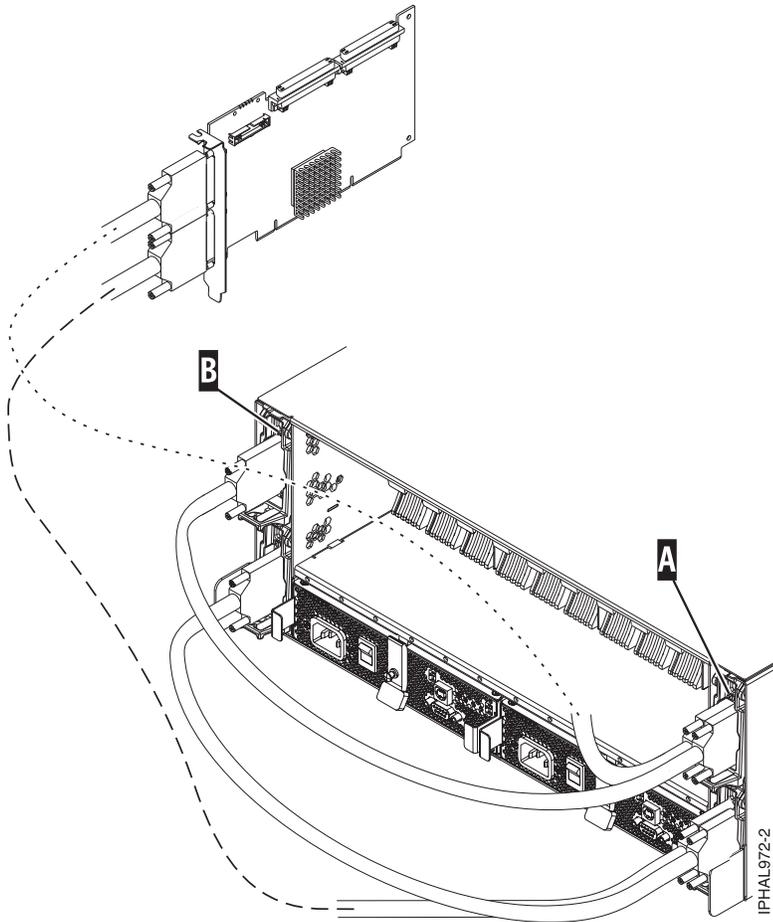

Figure 27. SCSI cable to a dual repeater card that is connected to a single repeater card
- If you are using a combination of single and dual repeater cards, connect a SCSI cable to the dual-initiator repeater card (A). Then, connect the dual repeater card (A) to the single repeater card (B) by using a different SCSI cable. For more information, see Figure 27 on page 58.